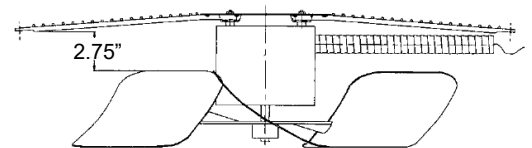

FIGURE 11
4. Adjust fan height as shown in **Figure 11**.